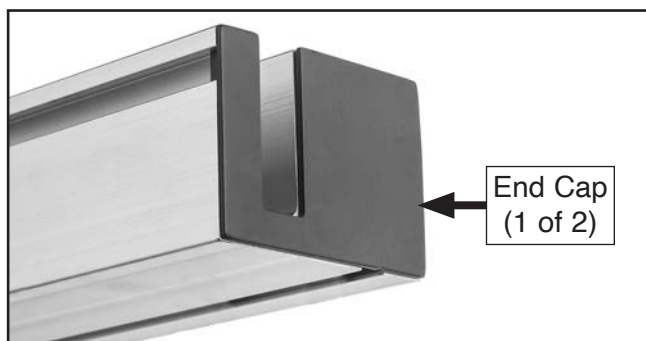

Figure 17. End cap on front fence rail.
6. Remove end caps from both ends of front fence rail (see **Figure 17**).